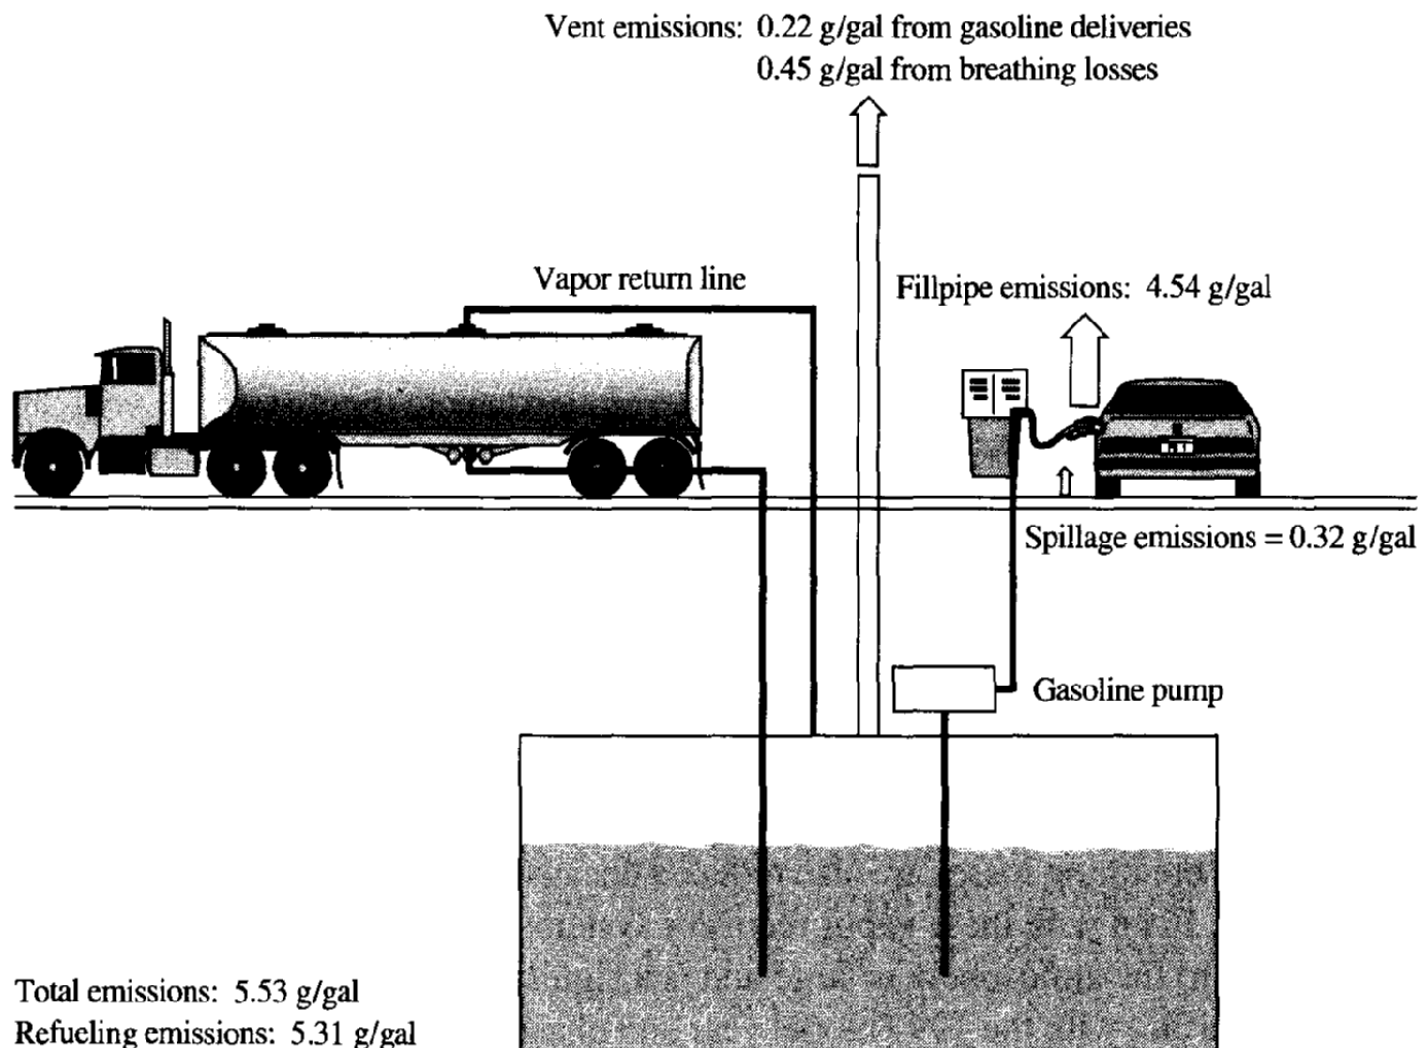

FIGURE 10.5
- The transfer of gasoline from tank trucks to underground storage tanks at service stations uses the scheme shown in Fig. 10.5.
Figure 10.5 de Nevers